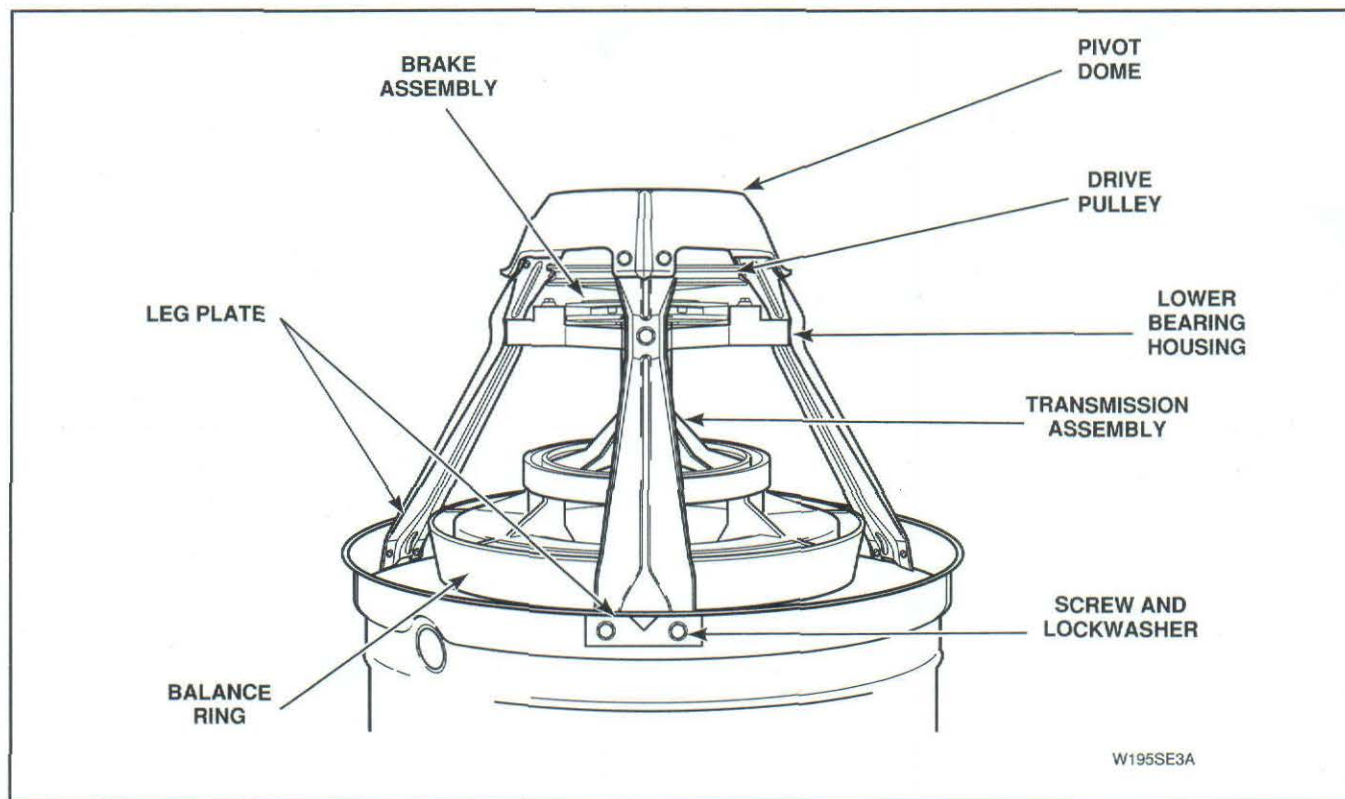

Figure 49
- u. Remove screws and lockwashers holding each support leg to outer tub, *Figure 49*. Then lift transmission, balance ring and pivot dome off tub.
- l. Remove screws holding three support legs to pivot dome and remove dome, *Figure 49*.
- Remove screws holding three support legs to pivot dome and remove dome, *Figure 49*.